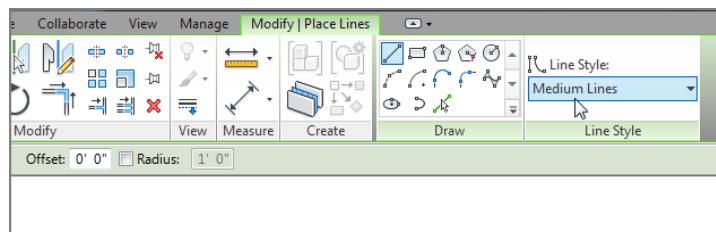

FIGURE 12.75: Select Medium Lines under Line Style.
7. In the Line Style menu, select Medium Lines, as shown in Figure 12.75.